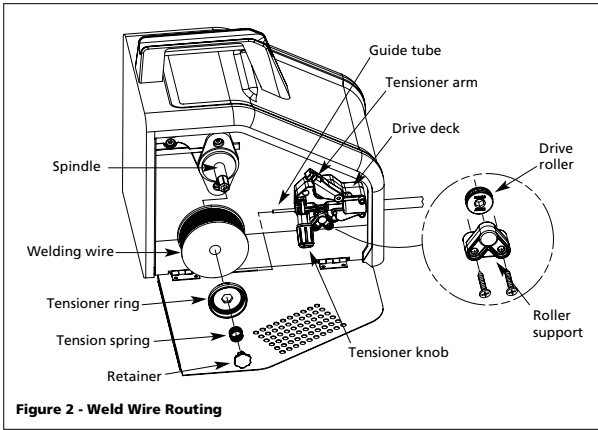

Figure 2 - Weld Wire Routing
- a. Diameter of welding wire matches groove in drive roller on wire feed mechanism (See Fig. 2). The drive roller is marked with metric sizes: .6mm = .024", .8 - .9mm = .030 - .035"